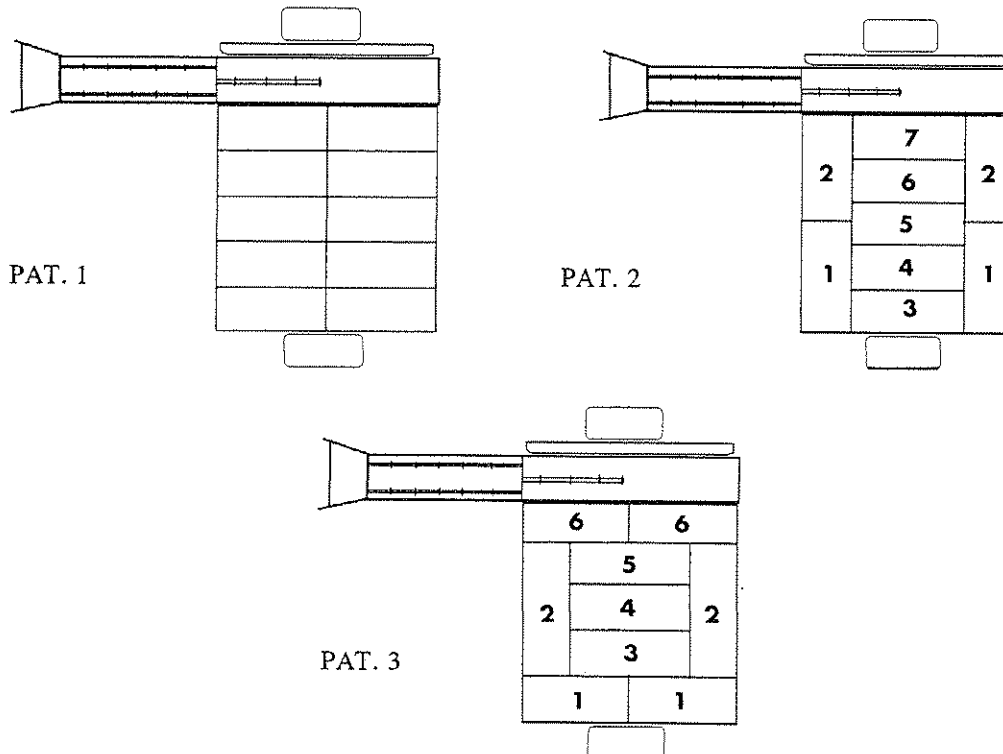

Fig. 2
6. The primary bale pattern as described in step 5 is referred to as pattern No. 1 (see Fig. 2). On selected tiers the control circuit is signaled to create a "Tie Tier". Two types of tie tier will occur. The tie patterns are referred to as No. 2 and No. 3. A panel near the top of the machine contains signal lights to indicate to the operator if a tie sequence is activated (see Fig. 3). This panel contains seven lights to represent each step of the tie sequence. Tie pattern No. 2 requires seven steps to complete the tier. Tie pattern No. 3 requires 6 steps to complete the tier. The number of lights lit represent each step of the process.